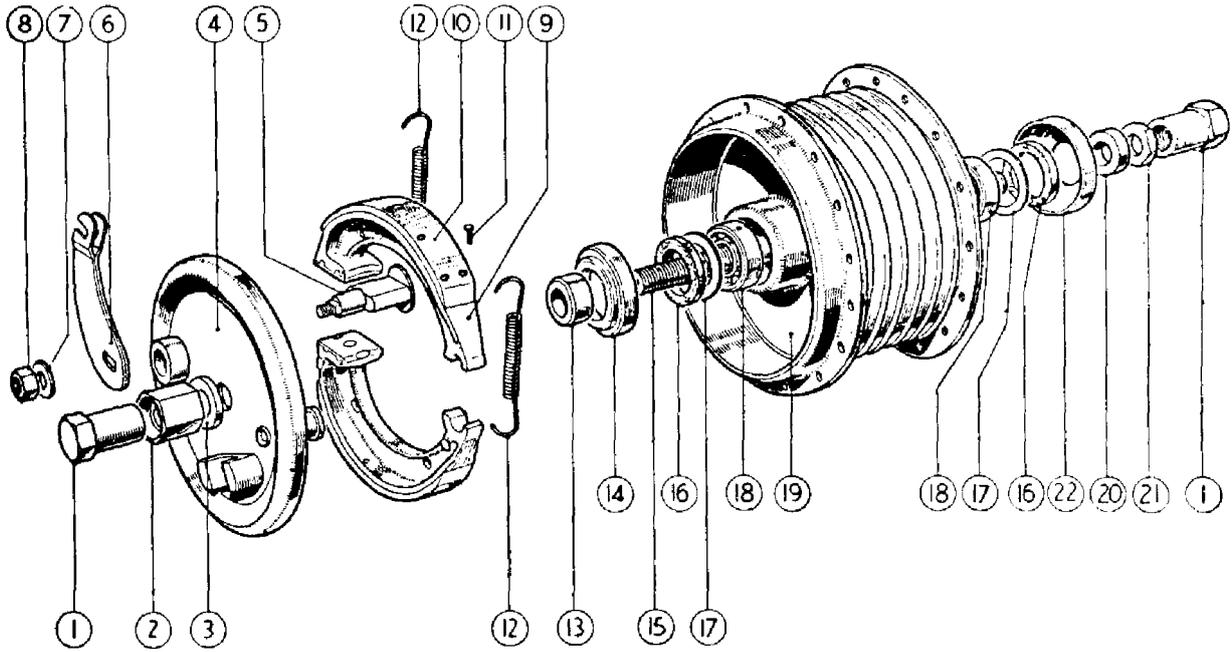

FIG. 88 Front Hub Assembly 1959 Type
**Front wheel (1960-62 Models)** (Fig. 88). It will be seen in Fig. 88 that the outside diameter of the spacing tube (13) is nearly the same as the inner member of the bearing (12). In consequence the projection into the spacing tube is small.